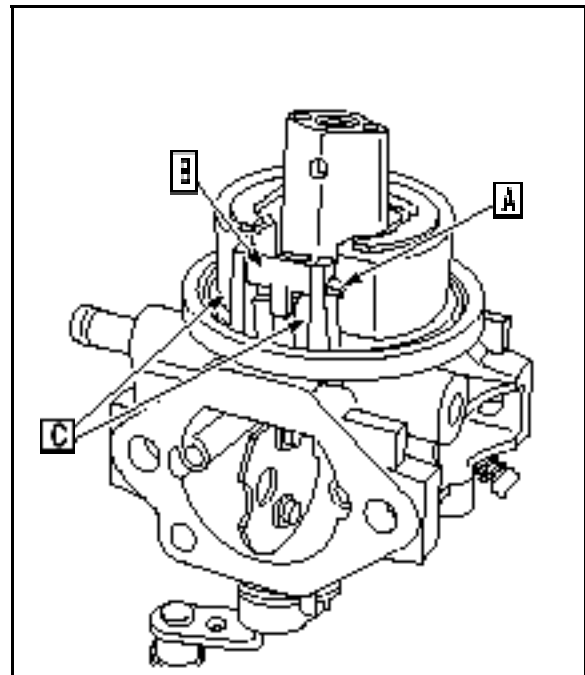

Fig. 97
3. Remove float hinge pin (A), float ([B] Fig. 97), and inlet needle.
4. Tap the end opposite the flats with a center punch ([C] Fig. 97) until it is loose.